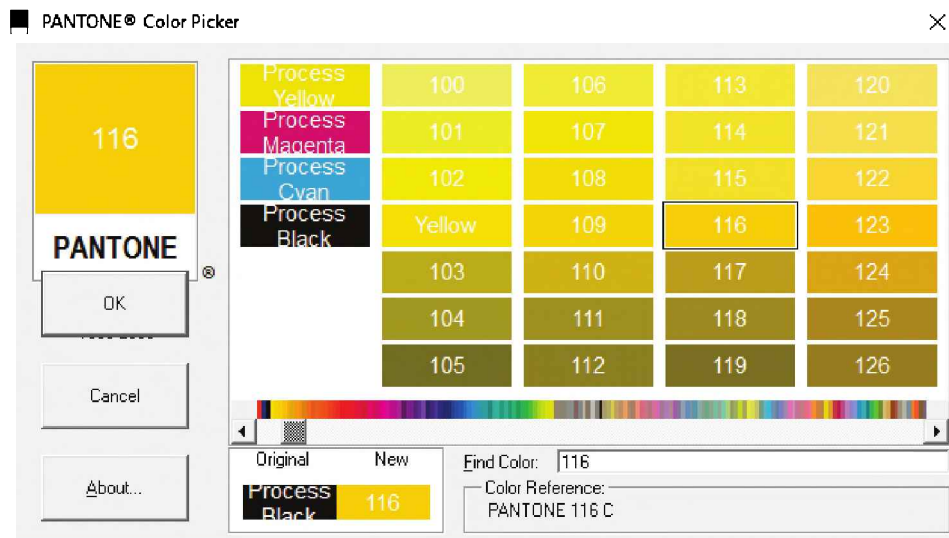

FIGURE 12-3.13 PANTONE Color Picker
26. Pick any color you like (Figure 12-3.13).